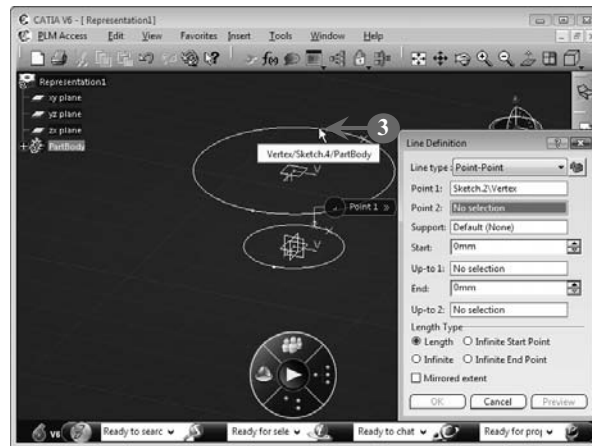

FIGURE 5.103
The selected point is added to the **Point 1** box in the **Line Definition** dialog box (**Figure 5.103**).
3. Select a point on the second section curve, as shown in Figure 5.103: